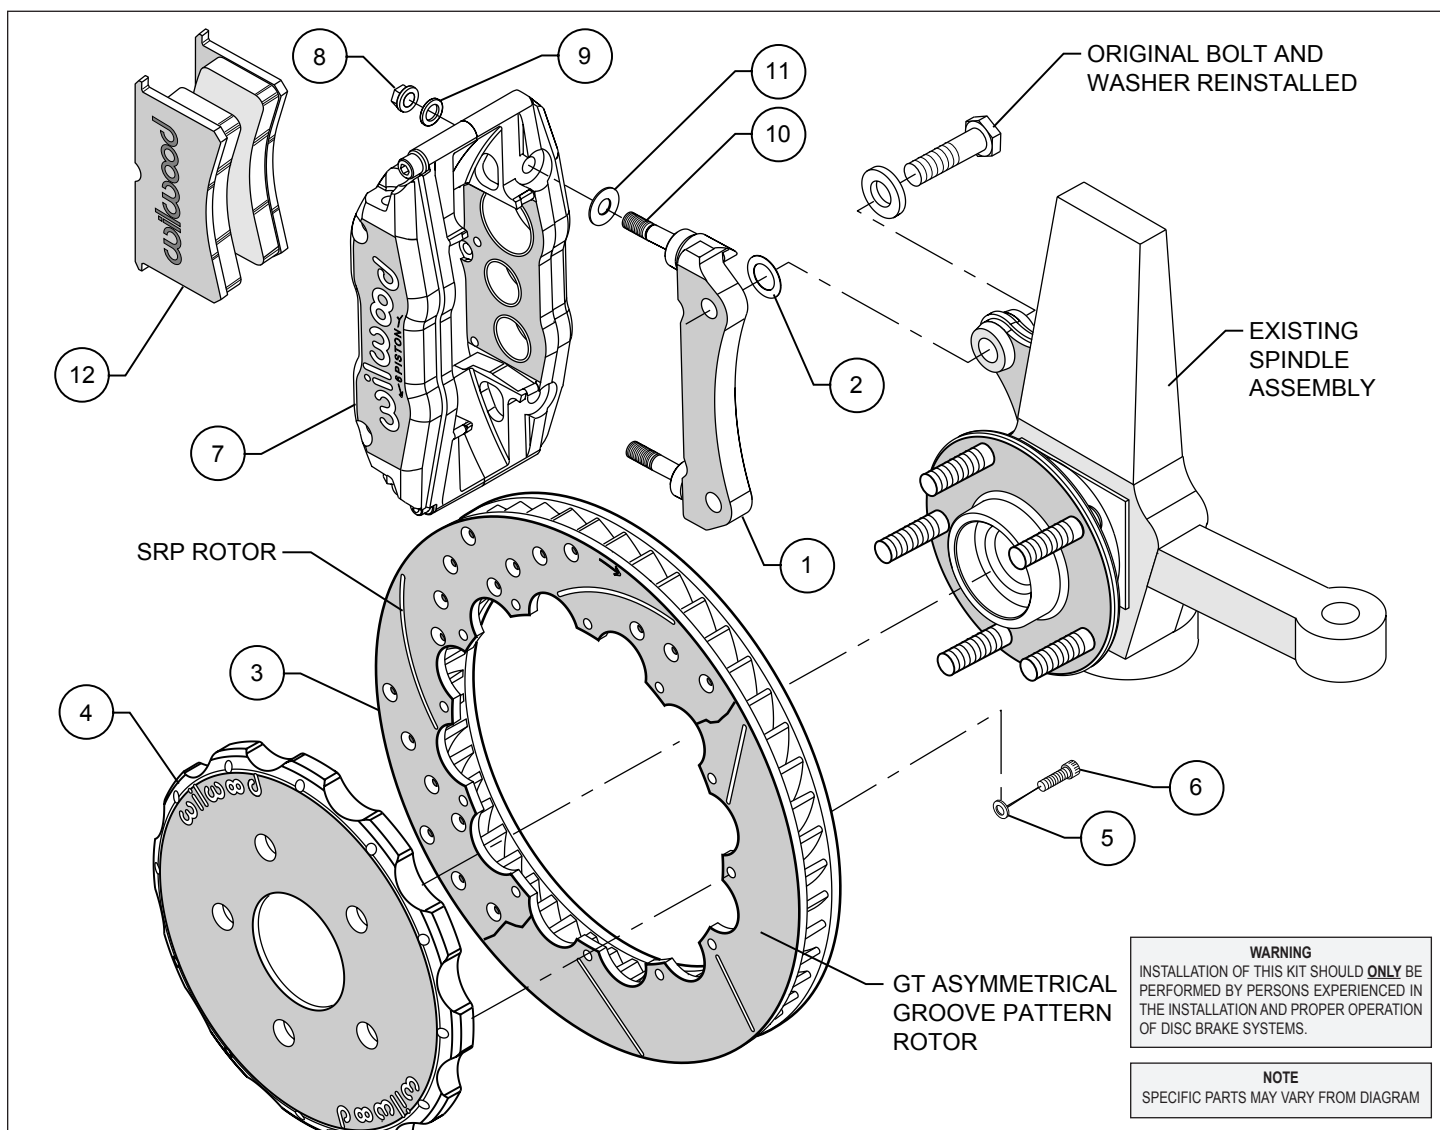
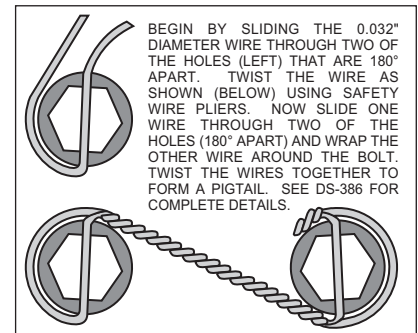

Figure 1. Typical Installation Configuration
Figure 3. Safety Wire Diagram
- The caliper mount bracket assembly (1) should be installed first with clean, dry threads on the mounting bolts. Install the bracket using the original caliper mount bolts. The bracket must tighten squarely against the outboard side of the caliper mount bosses on the spindle body. Inspect for interference from casting irregularities, machining ridges, burrs, etc. Use one thin shim (2) between the bracket and spindle during initial trial fitting. Later, after the caliper, pad, and rotor alignment has been checked, and any necessary shims have been put in place, the mount bolts should be coated with red *Loctite*® 271 and torqued to 65 ft-lbs.
- Assemble the rotor (3) to the hat (4) with the bolts (6) and washers (5) as indicated in the configuration pictured in Figure 1. Be sure all bolts thread in smoothly and are snug. Then, torque all bolts in an alternating sequence to 85 **in-lbs**. The rotor mounting bolts (6) must be lockwired using standard 0.032 inch diameter stainless steel safety wire as shown in Figure 3. Please refer to Wilwood's data sheet DS-386 (available at www.wilwood.org/ds386.pdf) for complete safety wire installation instructions.
- Install one shim (11) over each stud (10) on the radial mount bracket (1). Slide the caliper (7) in place over the studs and rotors and install the washer (9) and lock nut (8) to hold the caliper in place. The caliper bleed screws should be pointing up. Snug the lock nuts (8) and check that the rotor (3) is centered in the caliper (7). Add or subtract .035" shims (2) as necessary between the mount bracket and the spindle to center the caliper.